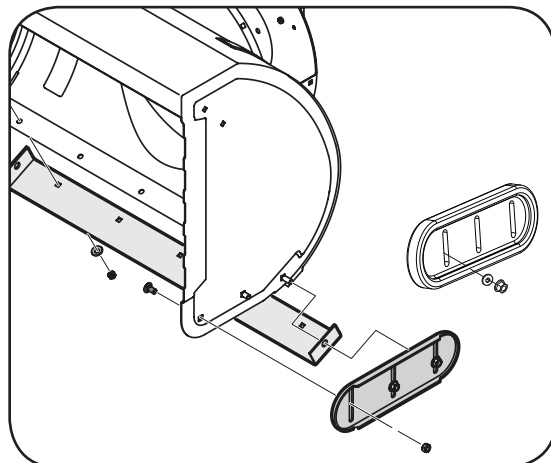

Figure 22
2. Reassemble new skid shoes with previously removed hardware. Refer to Figure 22.